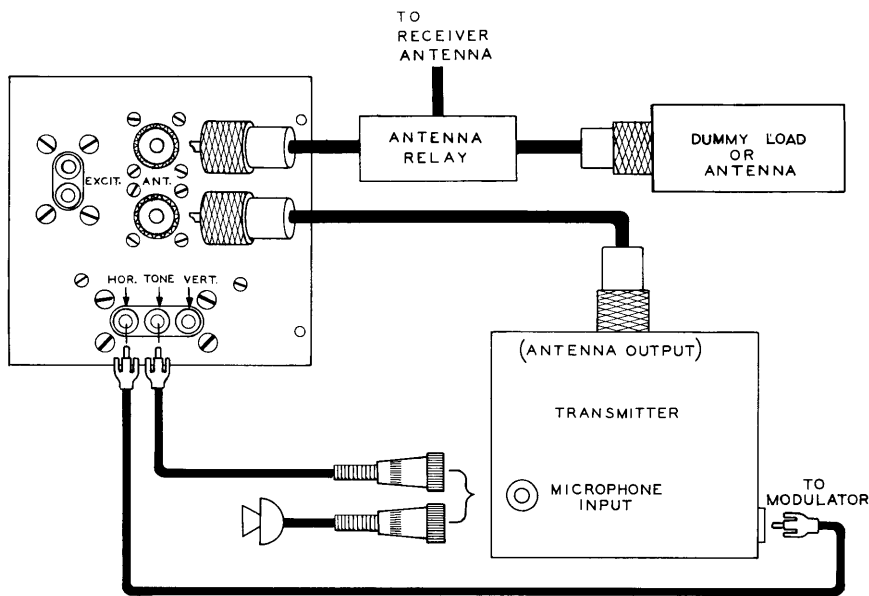

Figure 4
### AF TRAPEZOID PATTERNS (FIGURE 4)
2. Connect the Scope to the transceiver as shown in Figure 4 on Page 45. Also see Figure 7A which is a schematic diagram of a typical CB Transceiver output stage.